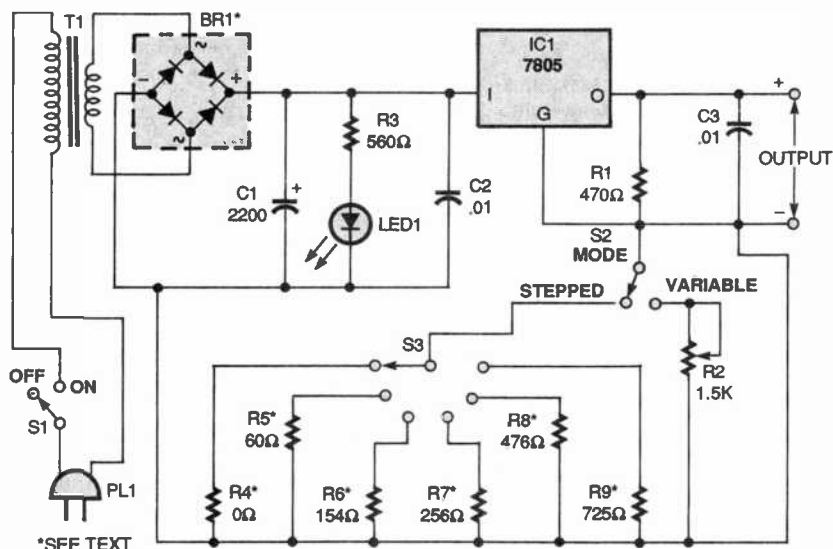

Fig. 1. The Power Supply circuit has an output that can be varied linearly by potentiometer R2 or switched to specific levels by rotary-switch S3.
**Circuit Description.** Figure 1 shows the schematic for the Versatile Power Supply. The simple circuit outputs a variety of voltages (customizable by you), and can output up to one amp of current—that's a lot more than most AC adapters. As shown, the Supply outputs between 5- and 15-volts DC.